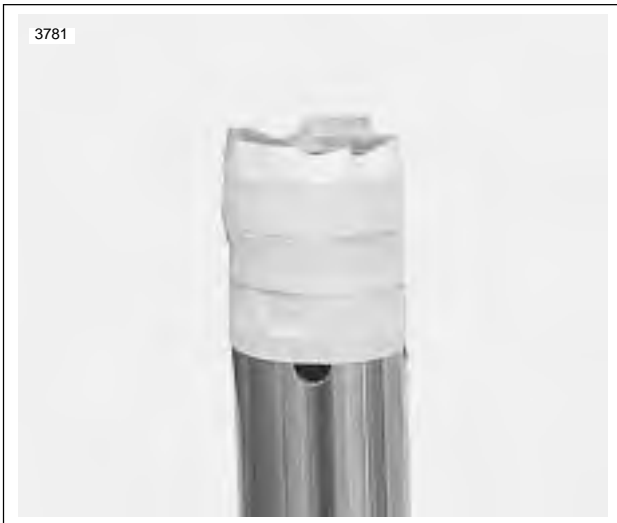

Figure 2-92. Remove Slider Tube Protection
17. See Figure 2-92. Remove the tape from the slider tube end.